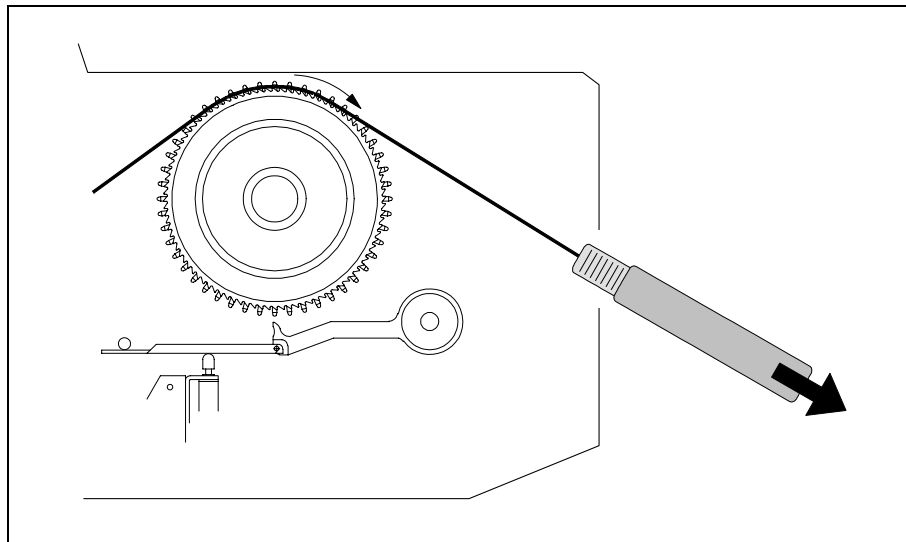

Figure 12-13. Feeder wheel friction measurement
1. Measure the feeder wheel friction by putting a piece of component tape on the feeder wheels and pull the tape using a dynamometer (see Figure 12-13). The force required to rotate each wheel shall be 1 - 5N.